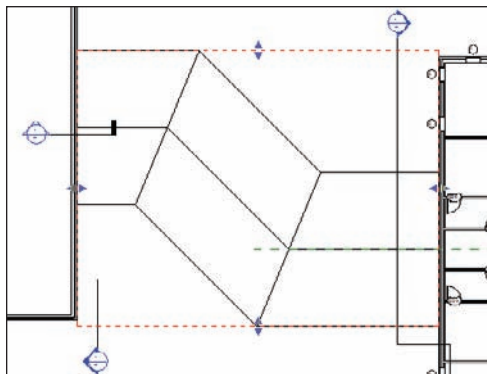

FIGURE 7.37 The finished roof plan
8. On the Modify | Create Plan Region Boundary tab, click Finish Edit Mode. You can now see the roof in its entirety, as shown in Figure 7.37.